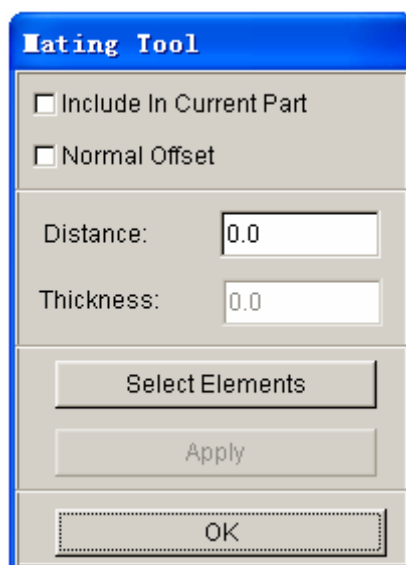

Figure 9.2.11 Mating Tool dialog box
- Select OFFSET FROM MATING TOOL to display the MATING TOOL dialog box (as shown in Figure 9.2.11).